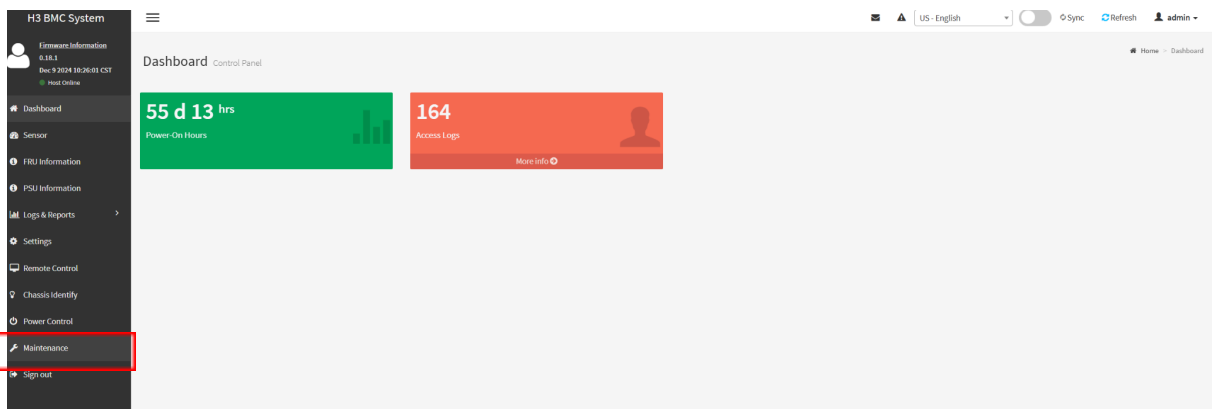

Figure 111. Navigating to the **Maintenance** section.
- C. Navigate to the Maintenance tab (see Figure 111).